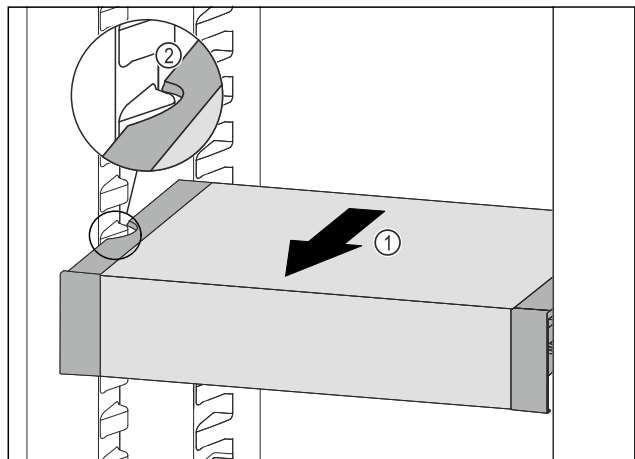

Fig. 121
- ▶ Pull VarioSafe forward Fig. 121 (1) until the recesses in the side of the VarioSafe are at the level of the support rib in the refrigerator compartment. Fig. 121 (2)